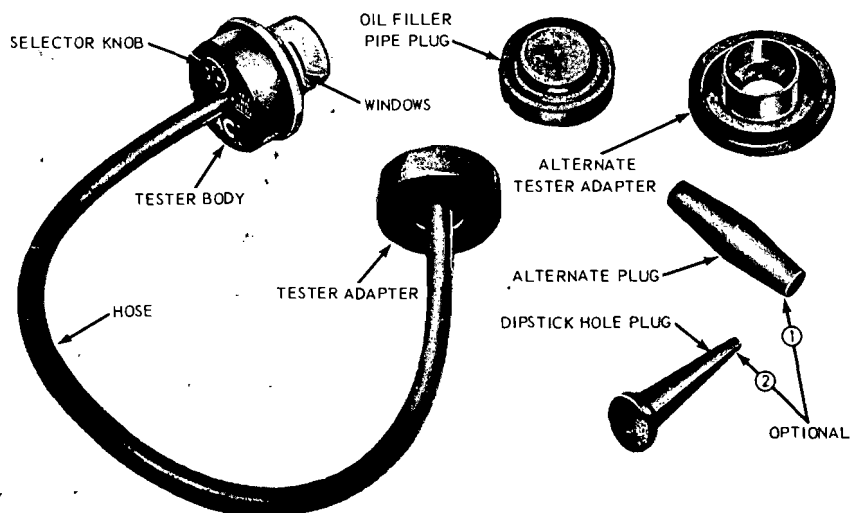

FIG. 7—AC Positive Crankcase Ventilation System Tester
This test uses the AC positive crankcase ventilation tester (Fig. 7) which is operated by engine vacuum through the oil filler opening. Follow the procedures described below to install the tester and check the crankcase ventilation system for faulty operation.
4. Insert the tester adapter in the filler cap opening and turn the selector knob (Fig. 7) to number 2 for the 289, 390 and 427 V-8 or number 4 for the 170 and 200 Six.